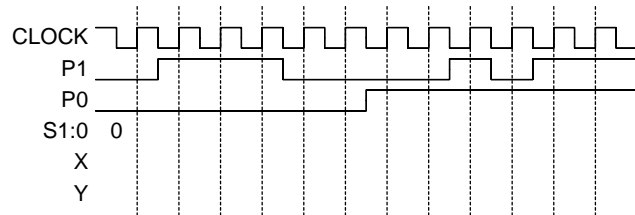

Figure 2
- (c) Complete the timing diagram of Figure 2 by showing the waveforms of the two output signals and the sequence of states followed by the circuit. The circuit is initially in state 0 as shown in the diagram. [6]